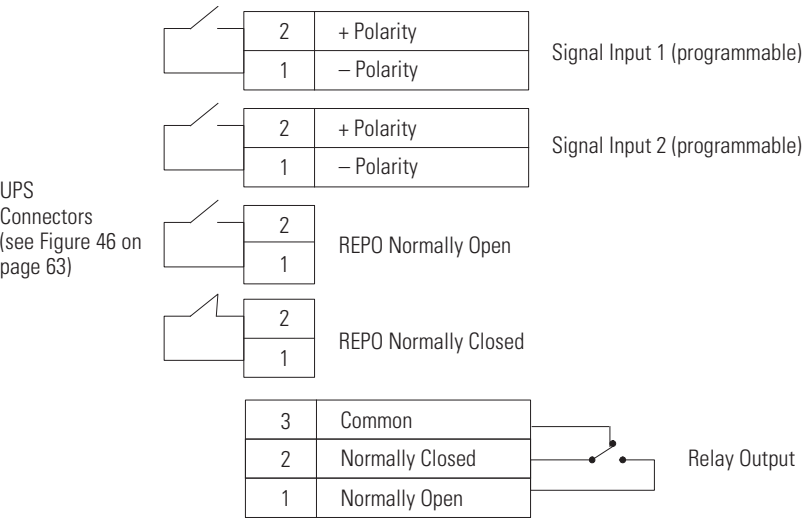

Figure 57. External Control Terminal Connections
2. Install wiring from the IRC to the monitoring equipment using 1/2" conduit through the cable exit opening in the IRC (see Figure 57).
Note: See Figure 57 on page 58 for the polarity and verify these connections if polarity control is required.